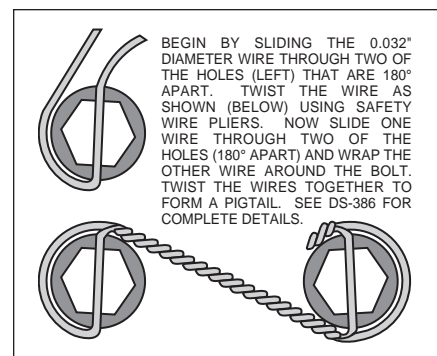

Figure 3. Safety Wire Diagram
- With the larger I.D. side of the rotor (4) facing away from the hat (5), bolt rotor (4) to hat (5) through the backside of the rotor using washers (6) and bolts (7). Using an alternating sequence, apply red *Loctite*® 271 to the threads, and torque to 25 ft-lbs. For an added measure of security, the bolts may be safety wired using standard 0.032 inch diameter stainless steel safety wire as shown in Figure 3. Please refer to Wilwood's data sheet DS-386 (available at www.wilwood.com/Pdf/DataSheets/ds386.pdf) for complete safety wire installation instructions. Slide the rotor/hat assembly onto the spindle. Check to be sure the hat seats squarely against the hub. Install a couple of lug nuts (finger tighten) to keep the rotor/hat assembly in place while continuing with the installation.